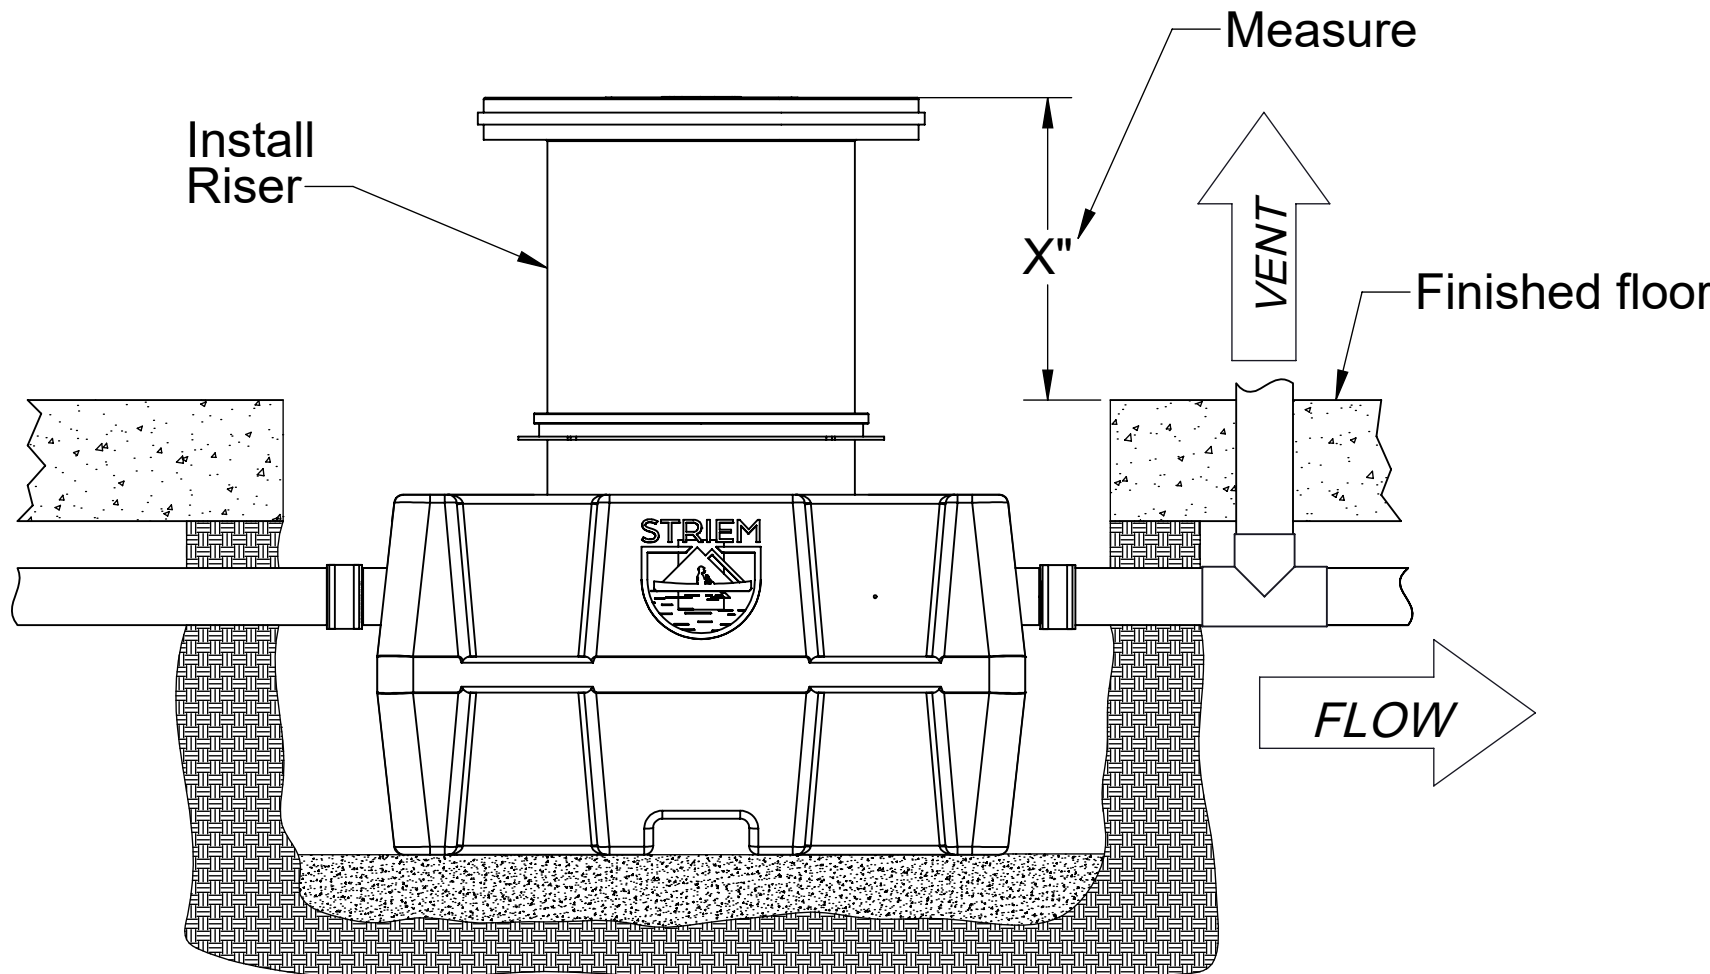

Figure 2
5. From the top of the adapter, measure your needed total riser height downward to the sidewall of the riser. Then, add 5" (for OS-35 or OS-50) or 6" (for OS-75, or OS-100). For example, if you have a OS-100 and need a 15-1/2" extension, you would measure down from the top of the adapter 21-1/2" (15-1/2" + 6" = 21-1/2"). See Figure 2.
- Push riser into ring until it stops (about 1 inch). See Figure 2.
- Measure the distance from the top edge of the riser down to the finished floor. Make sure to account for any future tile work in your measurement. See Figure 2.